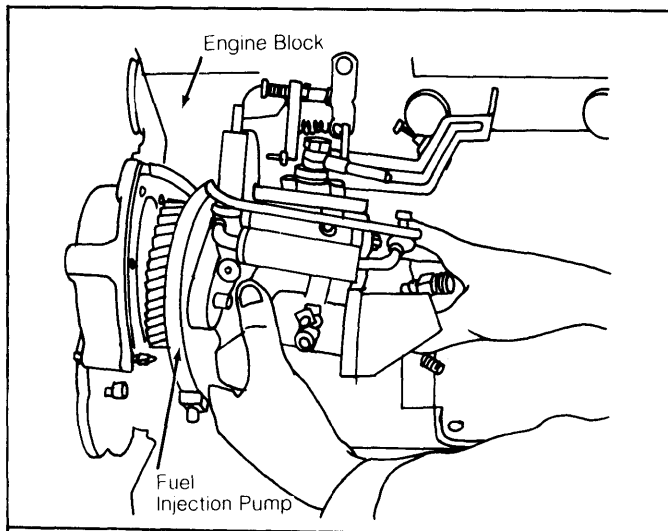

Fig. 6: Removing Fuel Injection Pump
4) On pump driven by timing gears, remove bolt and 2 bolts holding pump intermediate flange to timing gear housing. On lower screw, use a 6 mm Allen wrench. To remove pump, move it backward while pivoting it toward engine. See Fig. 6.